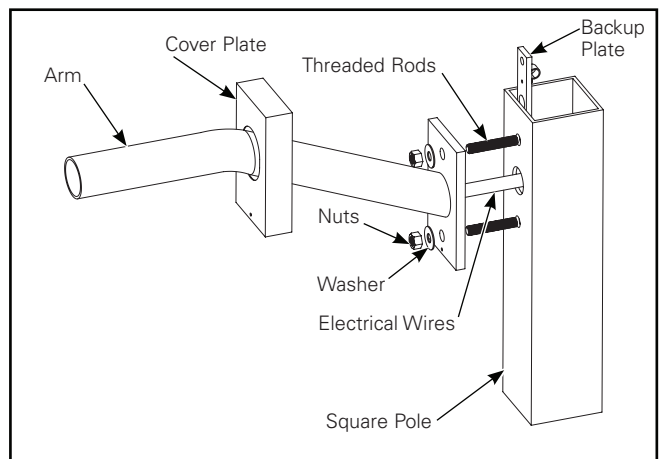
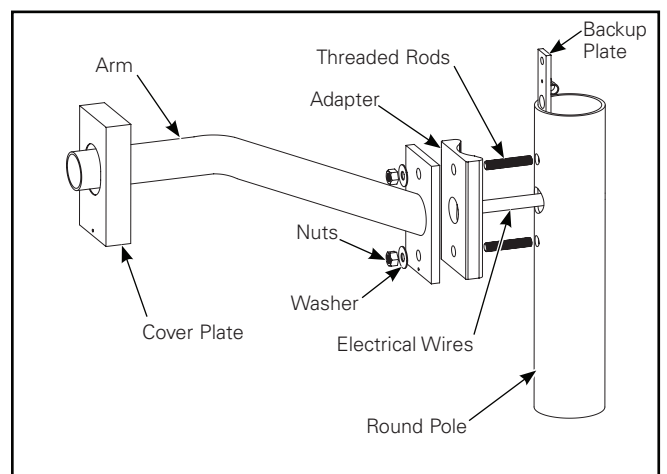

Figure 6.
Figure 7.
### Mast Arm: Square Pole (Figure 6) and Round Pole (Figure 7)
3. For round poles only - Install round plate adapter with round side facing pole (Figure 7). Align holes top and bottom.